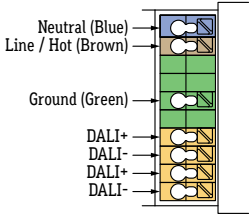

FIGURE 2 (INTERFACE)
- Do not connect LED Lightstrip lightstrip to power source while spooled or coiled. (Fig. 2)